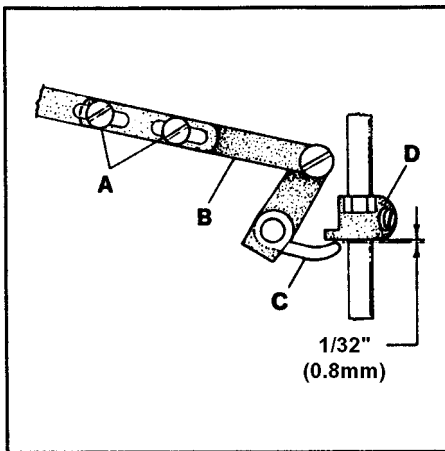

FIG. 22
Replace the presser spring and the presser bar regulating screw. Loosen screws (A, Fig. 22) in lifter lever link assembly (B) and position lever (C) so there is  $1/32$ " (0.8mm) clearance between it and presser bar guide (D) when the feed dogs are below the throat plate.
**NOTE:** Make sure the  $1/32$ " (0.8mm) clearance between the presser bar lifter lever and presser bar guide has been maintained. Refer to Fig. 22 if readjustment is necessary.